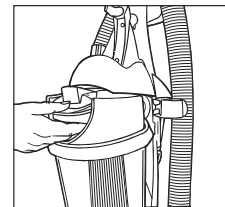

Fig. 6/1
1. Press the latch above the dirt container and remove the dirt container from the vacuum cleaner (Fig. 6/1).